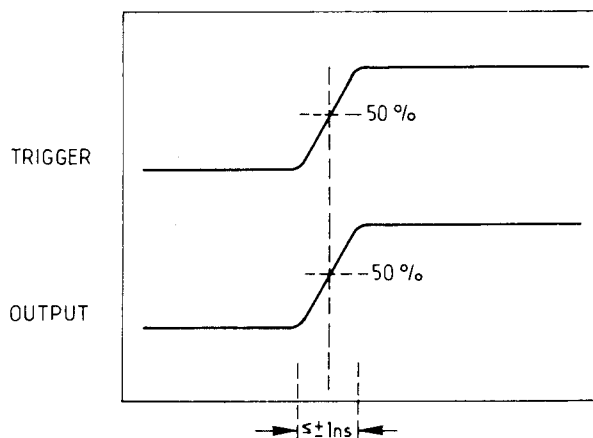

Figure 4–5. Min. Delay Limits.
3. With oscilloscope set to 1 ns/div, measure distance between trigger output and output pulse at the 50% line. The minimum delay should be as shown in figure 4–5. Take into account delay differences of Channel A and Channel B of Scope.